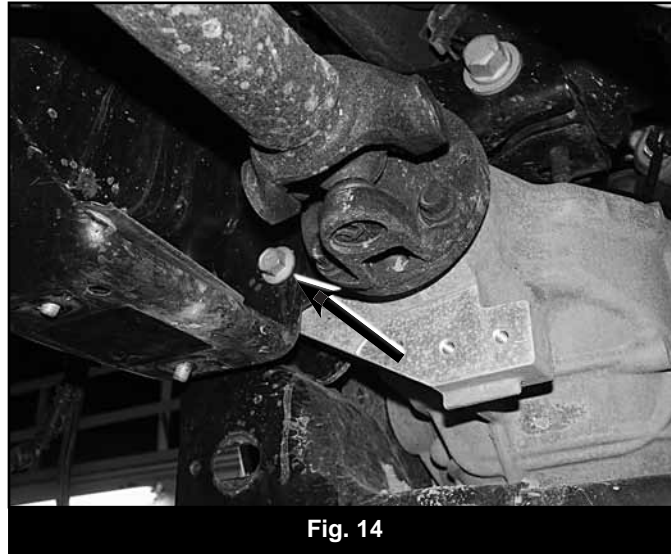

Fig. 14
27. Mark the relationship between the driveshaft and the input flange on the front differential. Remove the driveshaft mounting bolts and disconnect the driveshaft from the differential (Fig 14). Allow the driveshaft to rest out of the way. Retain hardware.
28. Support the front differential with an appropriate jack. Disconnect the differential breather hose from the differential housing. Remove the two driver's side and one passenger's side differential mounting bolts (Fig 14, 14a, 14b) and remove the differential from the vehicle.